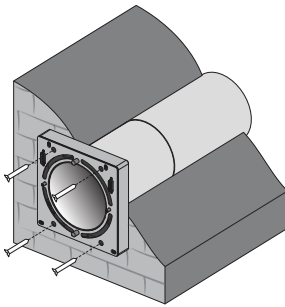

Figure 5
5. Fix the mounting box to the wall with the steel screws as shown in Figures 5.